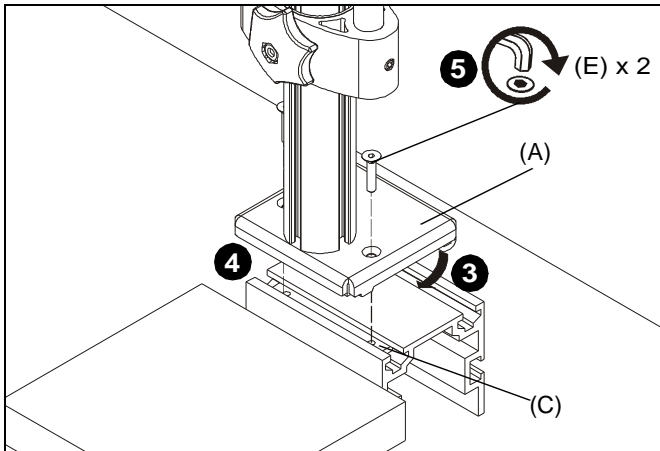

Figure 4
3. Hook back of cover plate (A) into back groove of FrameOne™ rail. (See Figure 4)
4. Place dual pole mount assembly onto FrameOne™ rail making sure holes on attachment plate line up with holes on channel plate (C). (See Figure 4)
5. Use two #10-32 x 7/8" flat head cap screws (E) to secure cover plate (A) to channel plate (C). (See Figure 4)